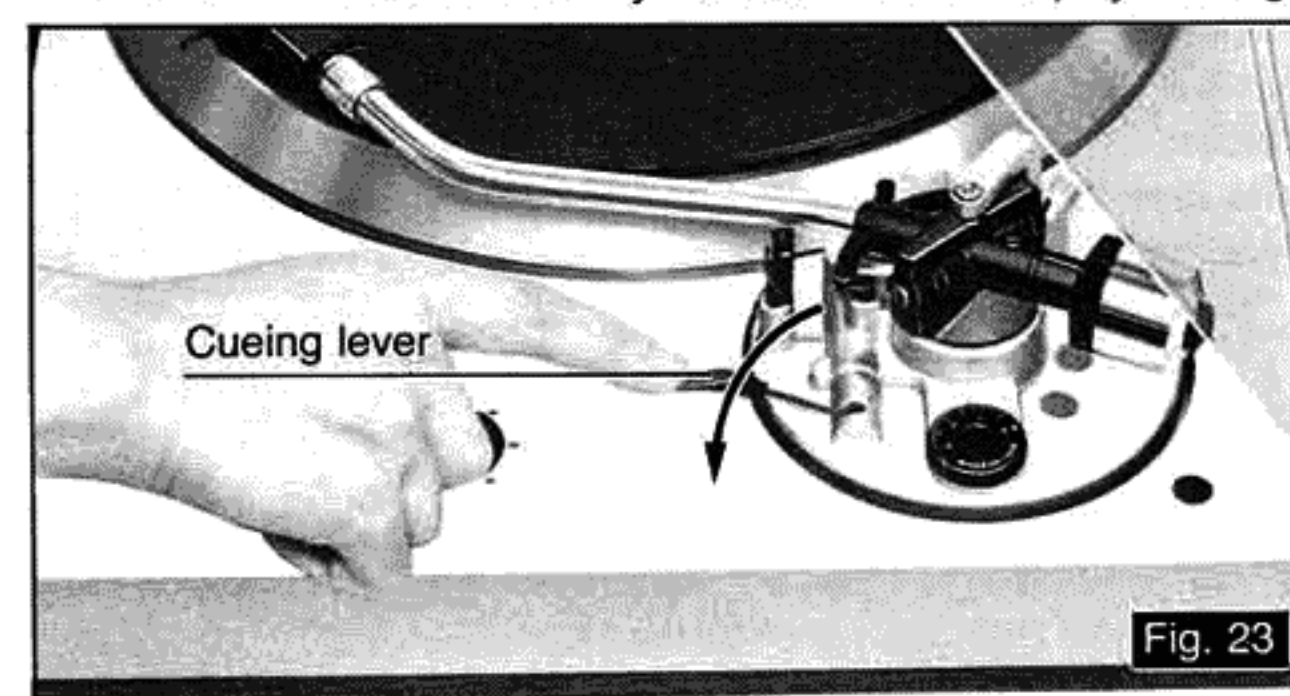

Fig. 23
- 5 Move the tonearm manually over the record. The turntable will start to rotate. Lower the cueing lever. (See Fig. 23).